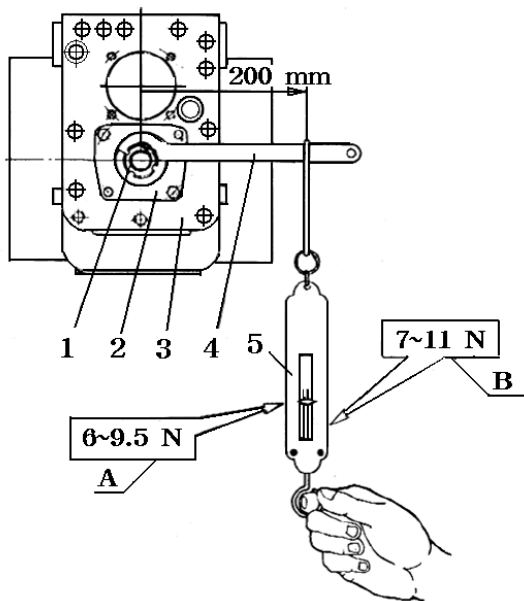

Fig. 5-2 Preloading of front bearing of the second shaft and that of the differential bearing
- (1) For the preloading of the front bearing No.27305 of the 2nd shaft and that of the differential bearing No.7210, see Fig.5-2. The preloading of bearing No.27305 requires a frictional torque of 1.2~1.9N\*m, Which corresponds to a reading in force on the spring scale of 6.5~9.5 N. The preloading of bearing No.7210 requires a frictional torque of 0.9~1.4 N\*m. When this is transformed to the 2nd shaft and added to it the preloading torque of bearing No.27305 (1.2~1.9 N\*m), the corresponding reading on spring scale should be 7~11 N.
- (2) Make sure that the axial play shall be less than 0.1mm.